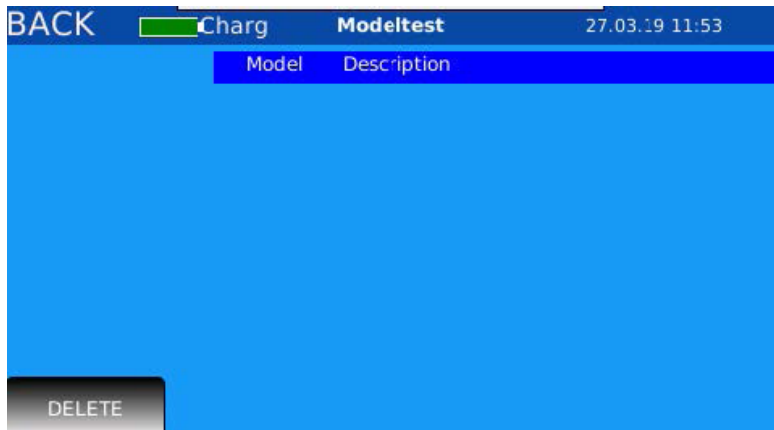

Figure 100. Imported sensor was deleted
3. The sensor will be deleted from the shaker database (Figure 100) and will no longer appear unless re-imported.